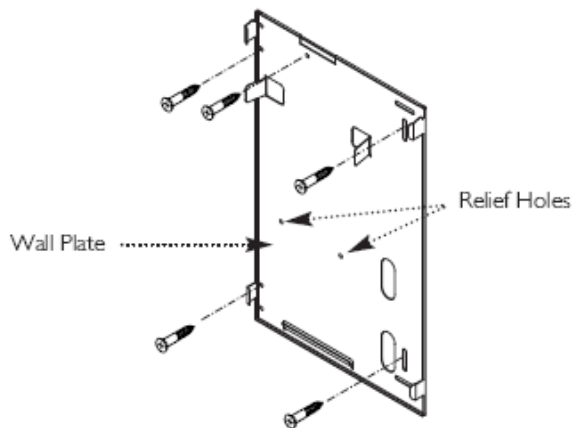

Fig. 22
6. Drill and plug the wall as previously marked. Secure the wall plate (Fig. 22).
7. Ensuring the wall plate is level both horizontally and vertically, drill and plug at least 5 securing positions at the top and bottom through the wall plate. Utilising the slots available ensure the wall plate is square and secure to the wall (Fig. 22).
8. Additionally drill 2 relief holes 10mm deep in the wall as shown on template (Fig. 22).